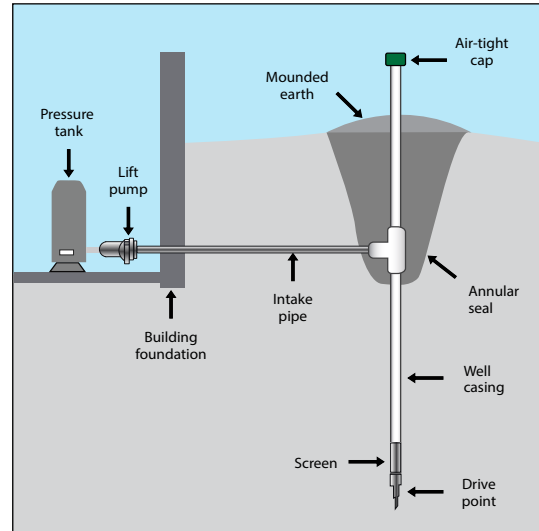

Figure 6. Driven point or sand point well.
**Sand point wells** are small diameter wells that are created using water to jet the casing and screen assembly down into a surficial aquifer. Sand point wells may also be driven into the aquifer. These types of shallow wells are less than 50 feet (15 metres) in depth (Figure 6). Driven wells, or sand points, are not very common in Saskatchewan and pose an increased risk of contamination from surface water during flooding and from land-use activities such as manure storage.